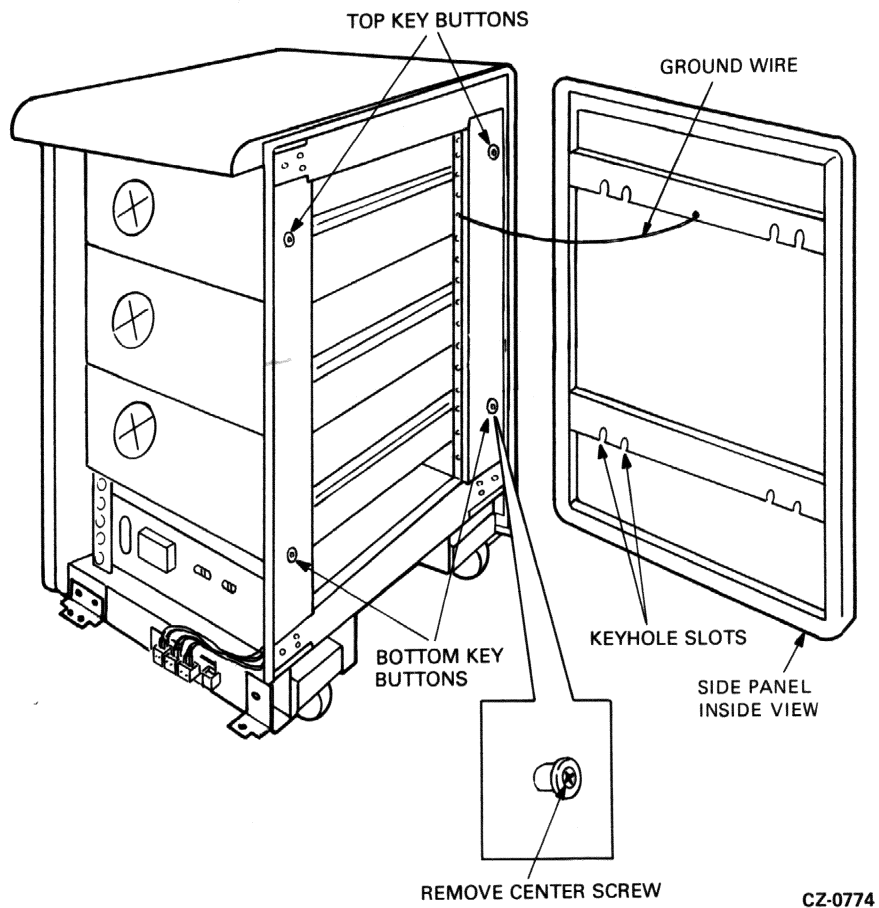

Figure 2-6 Side Panel and Bottom Key Button Removal
4. Remove the side panel by lifting it vertically to disengage it from the four key buttons on the side of the cabinet frame. Unscrew the ground wire attached to the side panel. Refer to Figure 2-6.
5. Install the side panel just removed from the first cabinet on the open side of the expansion cabinet. Begin by removing the back end panel lock from the expansion cabinet. Next, attach the ground wire just removed from the first cabinet to the exposed side frame of the expansion cabinet. Attach the other end of the ground wire to the side panel being installed. Then lower the side panel over the keyhole buttons on the cabinet. Secure the side panel by replacing the end panel lock. Refer to Figure 2-6.
6. Remove the two lower key buttons from the open side of first drive cabinet by removing the screws in the center of the key buttons. Refer to Figure 2-6.